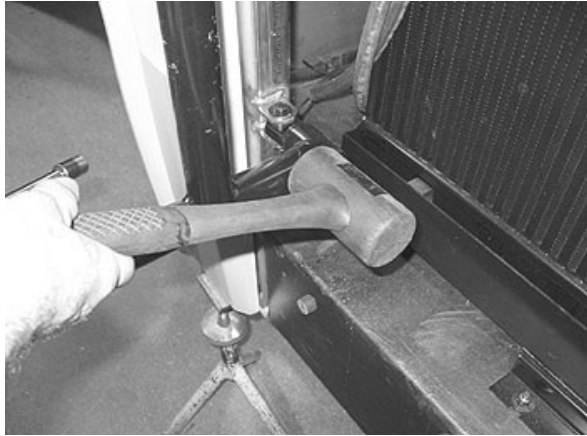

FIGURE 84: PANTOGRAPH ARM ADJUSTMENT
2. Using a rubber mallet, adjust the lower part of pantograph arm in order to get  $4 \pm 1$  mm between lateral panel and engine door (Refer to Figure 84 and Figure 85).